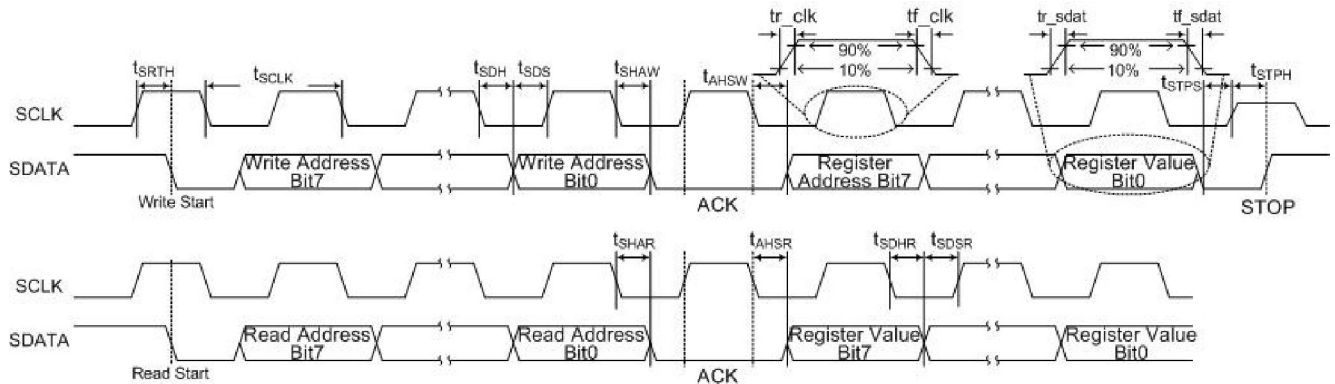

Figure 4-1 Two-Wire Serial Bus Timing Parameters
- The electrical characteristics of the two-wire serial register interface (SCLK, SDATA) are shown in Table 4.1 and Figure 4.1.